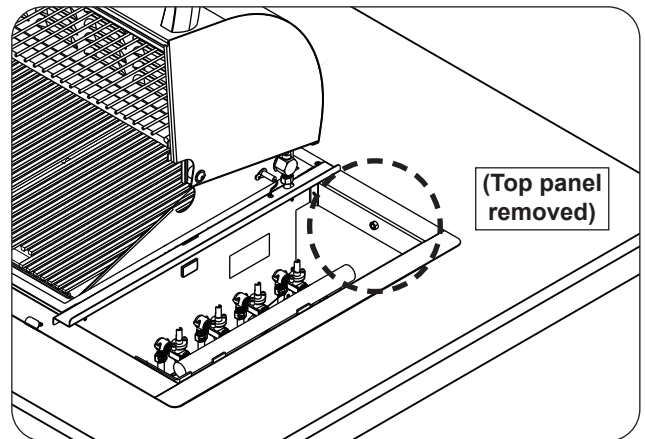

Fig. 25-2 Secure grill frame
2. Screw the 1 1/4" stabilizer screw (packed in the instructions bag) through the nut mounted on the right rear corner of the frame assembly (see Fig. 25-2). This will secure your grill in place.